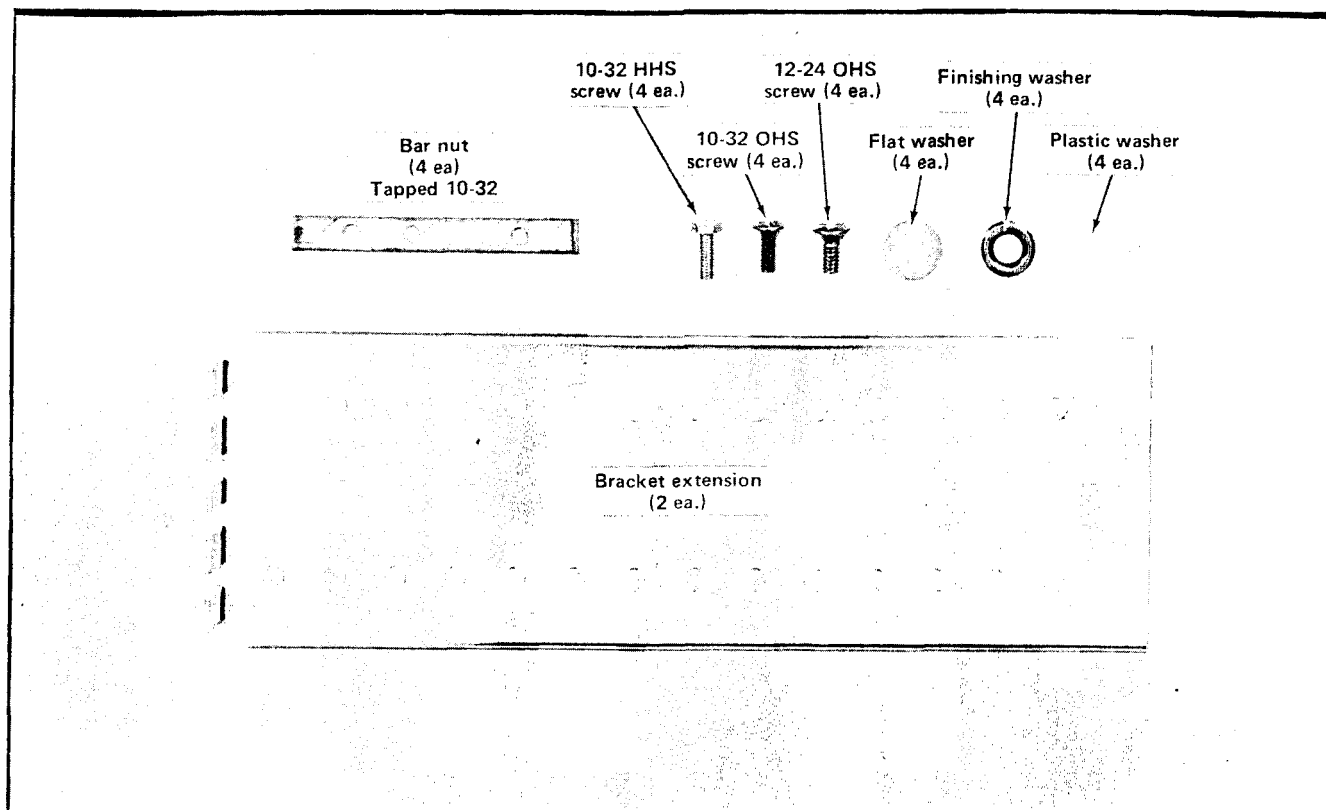

Fig. 6-2. Hardware needed to mount the instrument in the cabinet rack.
4. Secure the Rack Adapter Assembly to the front-rails of the rack. Use the appropriate screws with a plastic washer and finishing washer on each screw from the hardware kit provided. See Figs. 6-2 and 6-3.